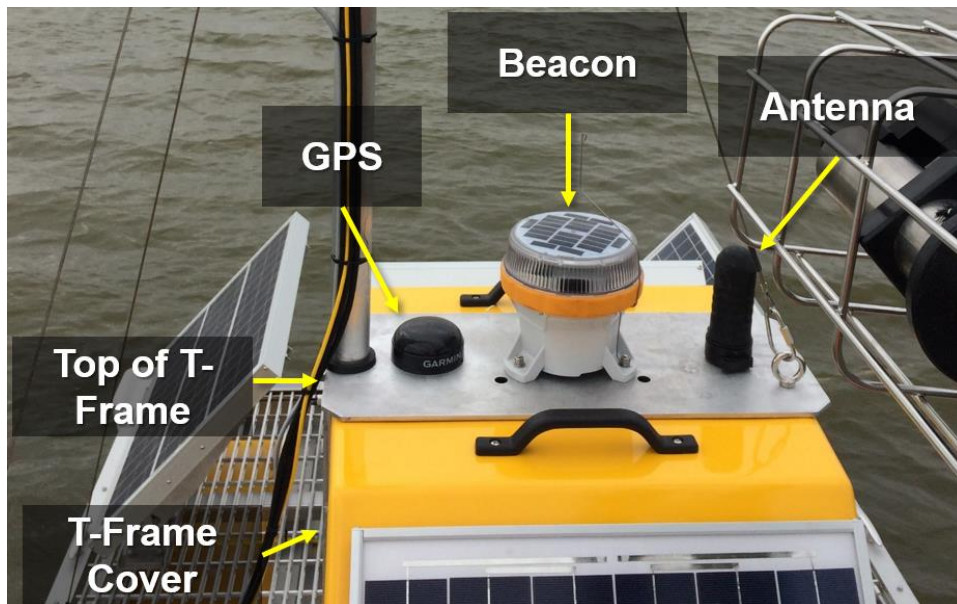

Figure 14. T-Frame: GPS, Beacon and Antenna
- b. Ensure the GPS, Beacon, and Antenna securely mount to the T-frame (see Figure 14).
- c. The antenna in Figure 14 transmits data from the AIS Buoy to the Aquatic Portal (with exception of the SUNA, which has its own radio and a separate antenna that mounts to the MET Mast). Ensure the AIS Buoy antenna is secure to the T-Frame and there are no visible signs of damage/degradation.